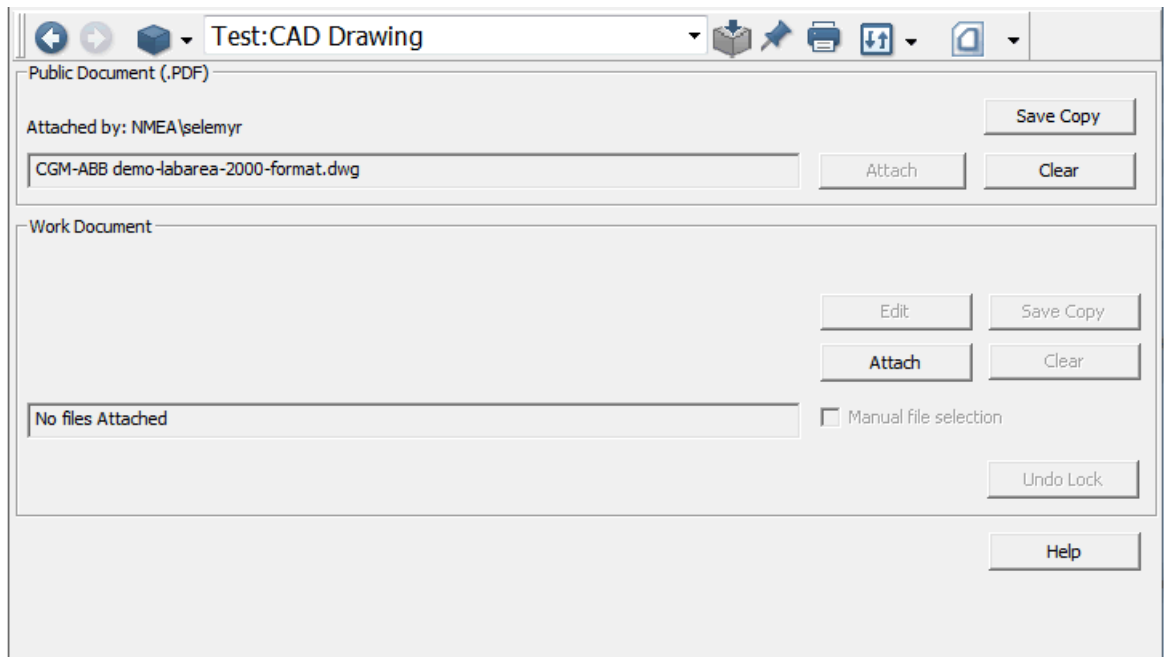

Figure 249. CAD Drawings - AUTOCAD File Attachment
3. Click **Attach** in the **Public Document** section and browse for the AUTOCAD file (.dwg), see Figure 249.